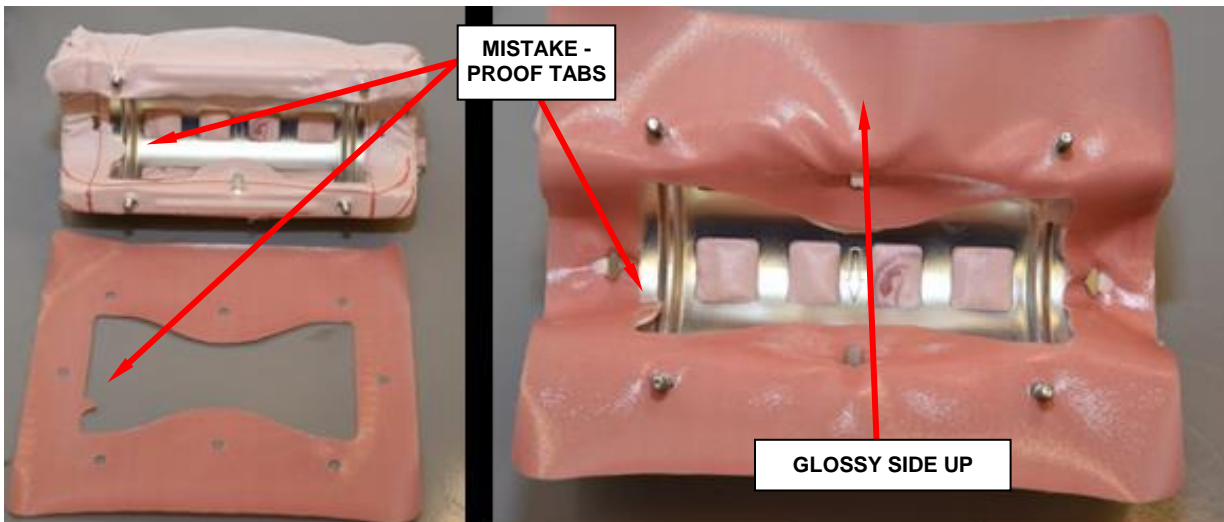

Figure 43 – Fabric Gasket to Cushion
- f. Place the fabric gasket, glossy side up, onto cushion. Mistake-proof tab should be aligned to the tab on the cushion (Figure 43).